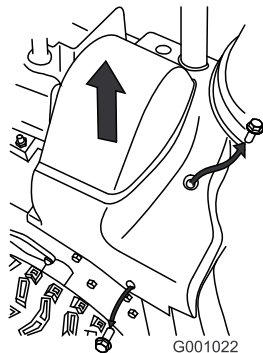

Figure 36
2. Lift up the right side of the belt cover (Figure 36).